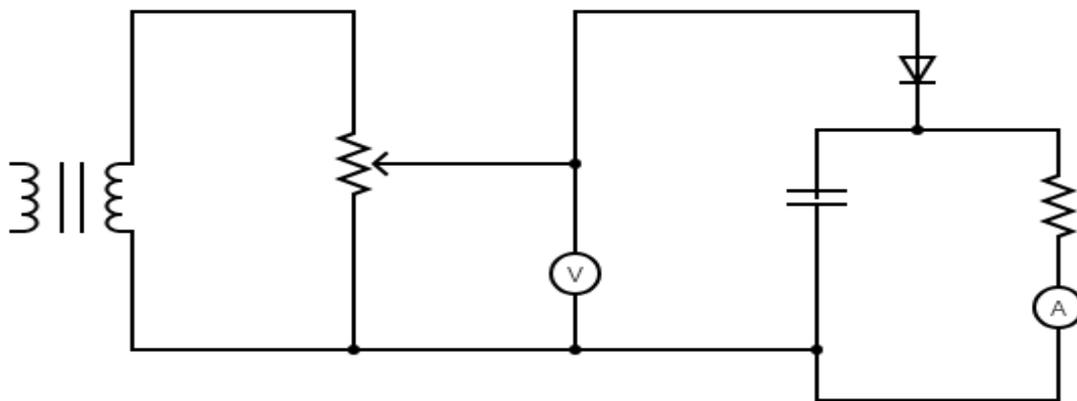

Figure 2
The apparatus as presented in figure 2 consist of a circuit having following two main element
1. Make connection the circuit as shown in figure 2.